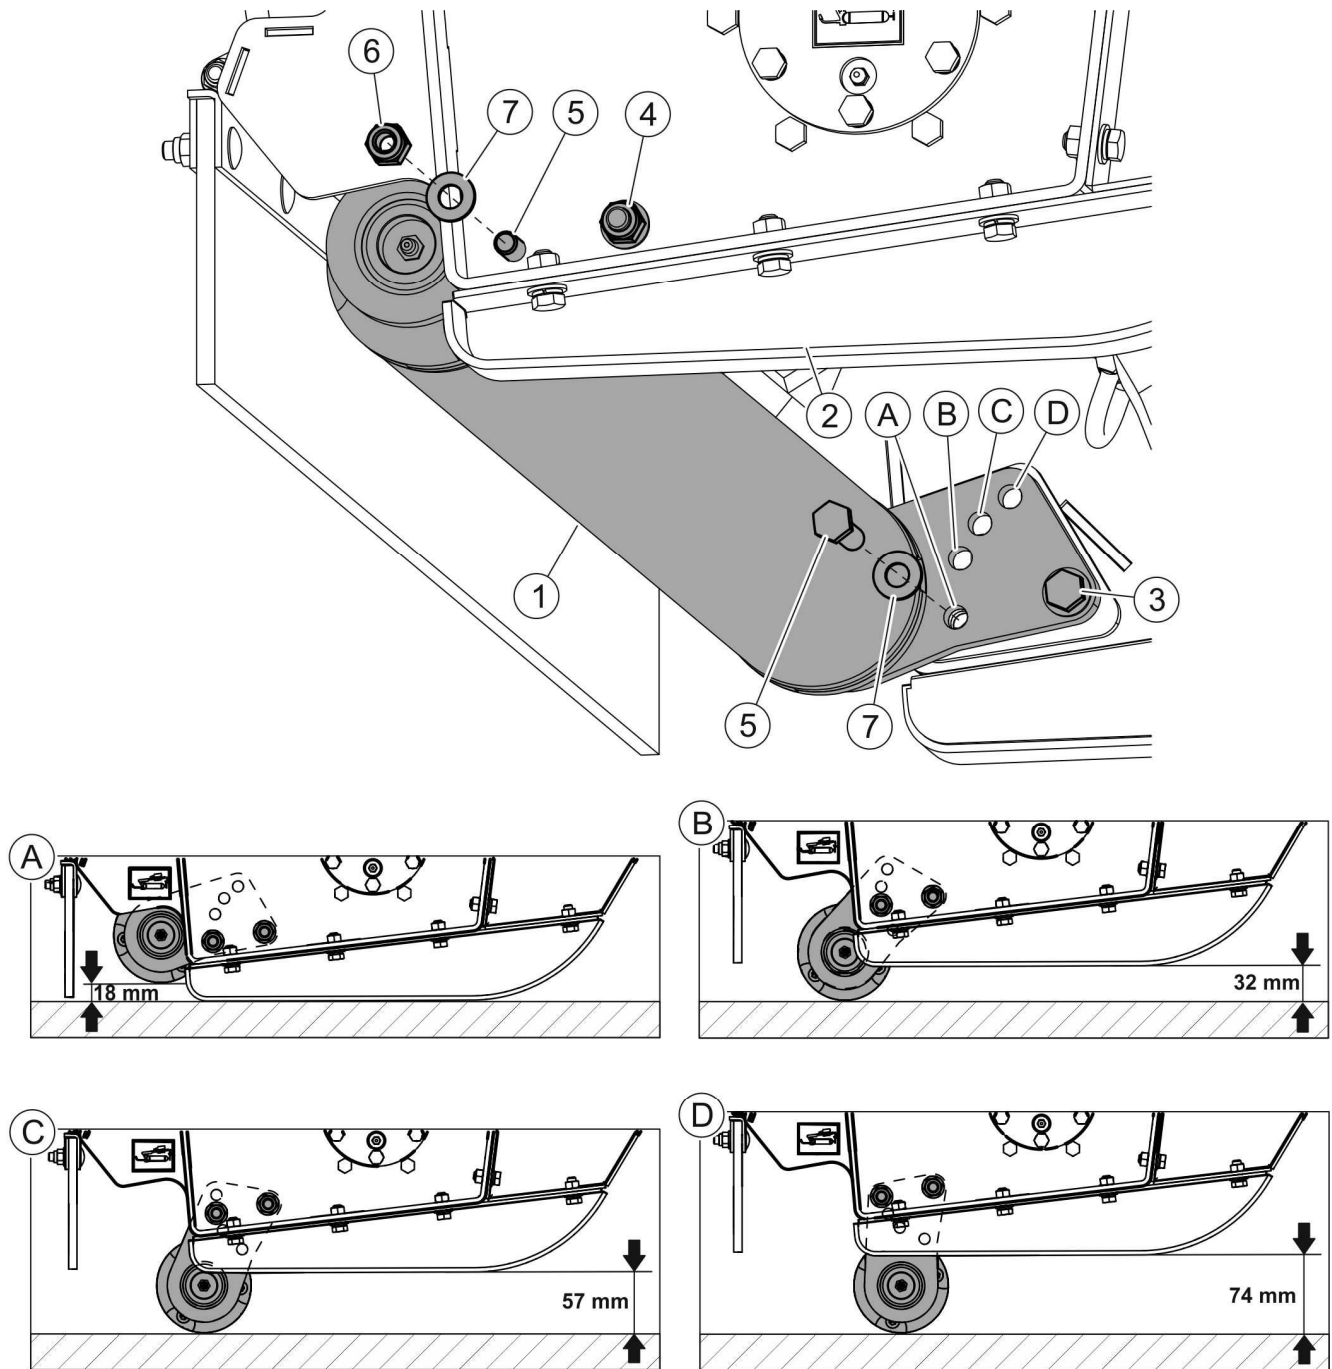
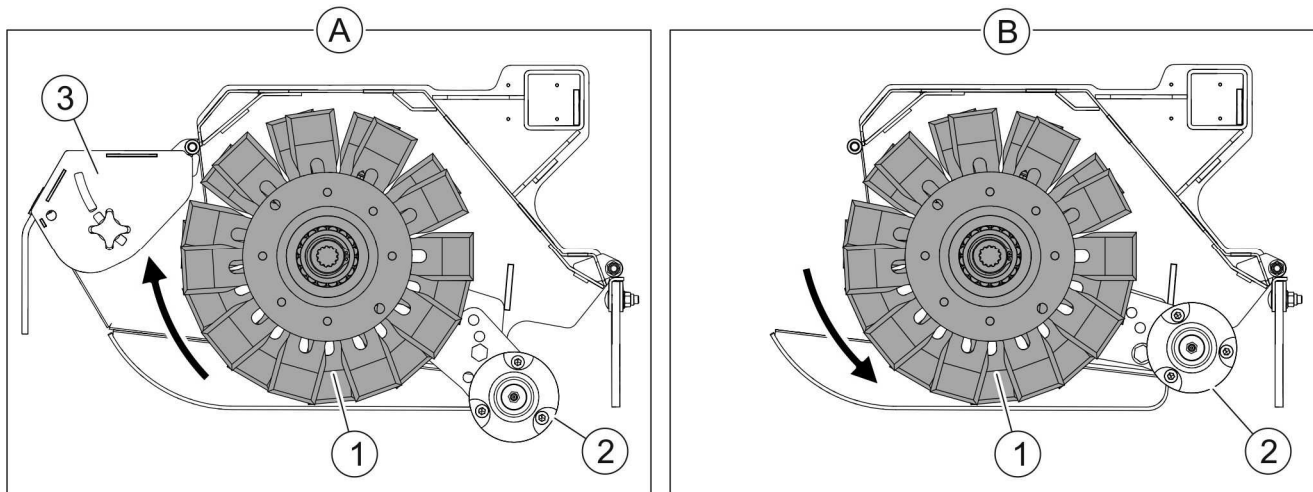
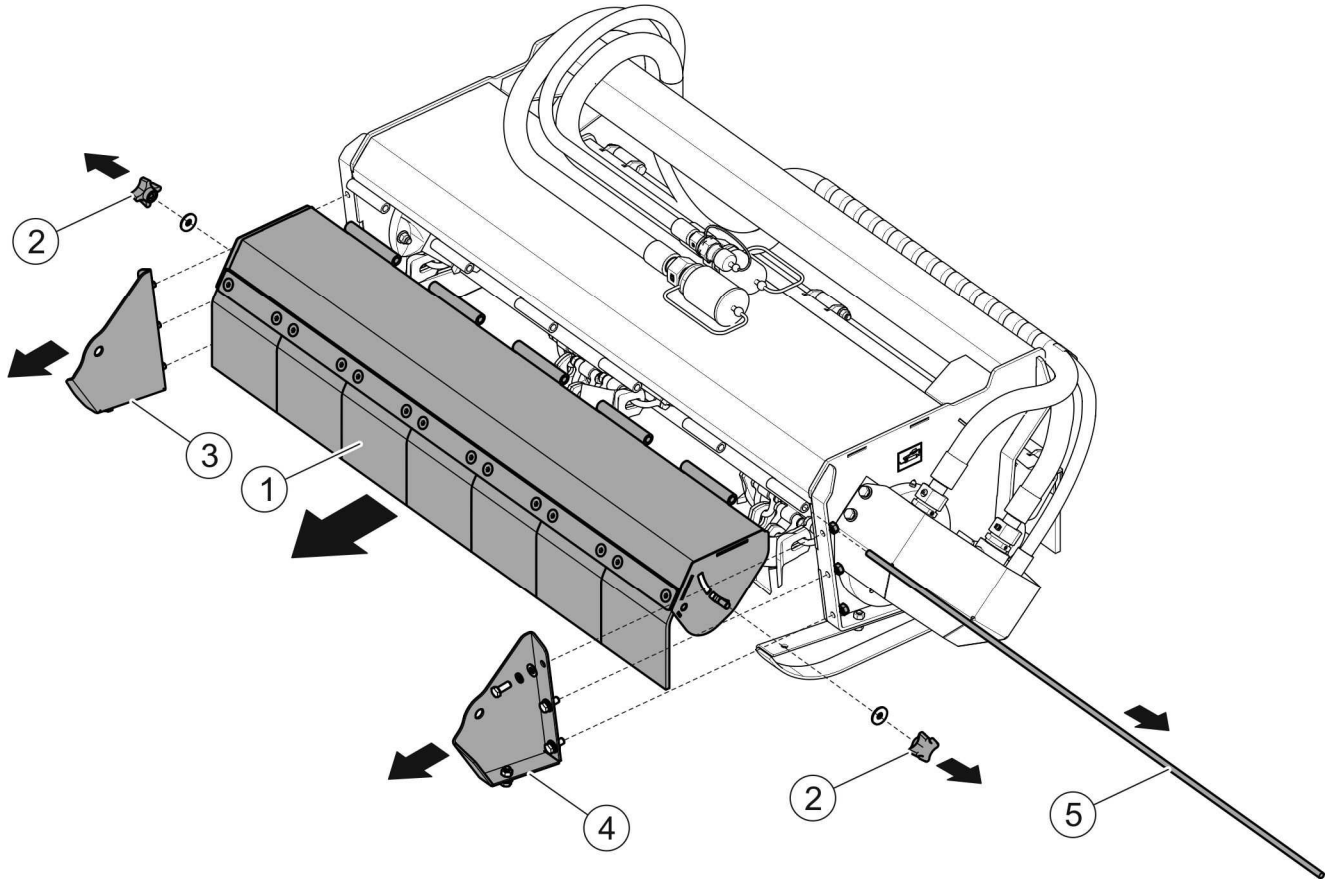

FIGURE 4.4 Adjust cutting height of the mowing head.
FIGURE 4.6 Direction of cutting shaft rotation in mowing head.
FIGURE 5.2 Remove the front guard.
can be modified by changing the tracking shaft (1) position with regard to the mowing head housing. In order to do this (FIGURE 4.4):
- loosen nuts (4) of bolts (3) on both sides of the tracking shaft (1) on which the tracking shaft will be turned;
- undo nuts (6) and remove fixing bolts (5) on both sides of the tracking shaft
- insert fixing bolts (5) into appropriate openings and screw on the nuts (6),
- tighten nuts (4) of bolts (3) on which the tracking shaft was turned.
(1)- cutting shaft; (2)- tracking shaft; (3)- front guard (A)- direction of cutting shaft rotation - "up"; (B)- direction of cutting shaft rotation - "down".
Normally, when mowing grass, the mowing head should rotate in such a manner that the cutting shaft rotates "up" (A) (FIGURE 4.6), as seen from the side of the mowing head front. In this case, the front guard (3) should be lowered as much as possible. At the same time, the guard should be set in such a manner so that the cut material could enter under the guard.
When the mowing head is used for chopping shrubs or hedge maintenance, remove the front cover (Figure 5.2) and change the cutting shaft rotation direction to "down" (B). Then, the tracking shaft (2) should be maximally raised (position A (FIGURE 4.4)), so that cut material could enter the rear part of the mowing head. If the cutting shaft of the mowing head rotates in "down" direction, the drive system is more loaded and quality of cutting is worse. That is why, working speed of the mowing head should be reduced.
Never operate the mowing head with dismantled tracking shaft (2) (FIGURE 4.6). This may damage the cutting shaft (1) and be dangerous for mowing head operator and other people.
Never operate the mowing head with dismantled cover (3) (Figure 4.6) with the cutting shaft rotation direction "up". This may be dangerous for mowing head operator and bystanders.
If you change the direction of rotation of the cutter shaft "down" (the mowing head is used for chopping shrubs or hedge maintenance) (FIGURE 4.6), you must remove the front guard (FIGURE 5.2).
Never operate the mowing head with dismantled front guard (Figure 5.2) with the cutting shaft rotation direction "up". This may be dangerous for mowing head operator and bystanders.